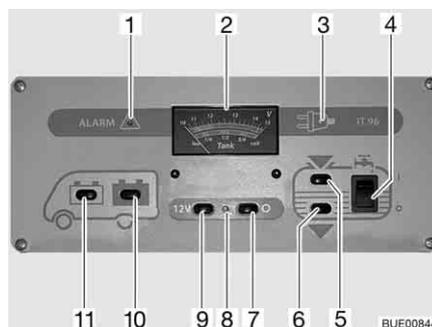

Fig. 140 Panel IT 96-2
The 12 V main switch (Fig. 140,7 and 9) switches the panel and the 12 V power supply to the living area on and off.
Switching on: ■ Press switch (Fig. 140,9) "12 V": The 12 V living area power supply is switched on. The indicator lamp (Fig. 140,8) lights up green.
Switching off: ■ Press switch (Fig. 140,7) "O": The 12 V living area power supply is switched off. The indicator lamp (Fig. 140,8) goes out.
With the V/tank gauge (Fig. 140,2), note the top scale. The gauge automatically lights up as soon as a switch is pressed.
- Press switch (Fig. 140,11) : The battery voltage of the starter battery is displayed.
- Press switch (Fig. 140,10) : The battery voltage of the living area battery is displayed.
The V/tank gauge is for the indication of the quantity of water or waste water. With the V/tank gauge (Fig. 140,2), use the bottom scale. The gauge automatically lights up as soon as a switch is pressed.
- Press switch (Fig. 140,5) "": The volume of water is displayed.
- Press switch (Fig. 140,6) "": The volume of waste water is displayed.
Switching on: ■ Press the upper part of the rocker switch (Fig. 140,4) "I": The water supply is ON.
Switching off: ■ Press the lower part of the rocker switch (Fig. 140,4) "O": The water supply is OFF.
The red "ALARM" warning light (Fig. 140,1) flashes as soon as the voltage of the living area battery falls below 11 V (measured under operation) and there is a risk of a total discharge.
The 12 V indicator lamp (Fig. 140,8) illuminates whenever the 12 V main switch (Fig. 140,9) is switched on.
The yellow 230 V indicator lamp (Fig. 140,3) illuminates whenever line voltage is available at the transformer/rectifier input.